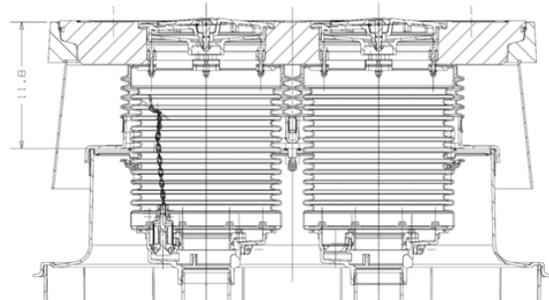

Figure 31
- 52. Remove existing FL100 cover and measure the distance from the spill platform to the final grade. Distance should be 12" +/- 4" in order to retrofit. If distance does not meet this range it may not be possible to retrofit without making adjustments. See Figure 31.